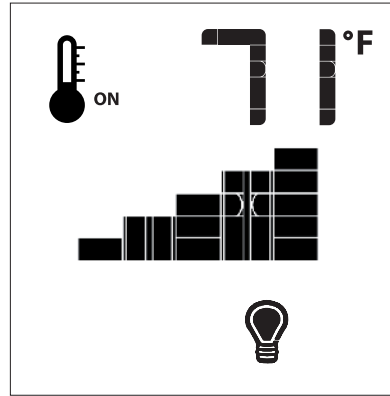

Fig. 16
The intensity of the output can be adjusted through six (6) levels. Use the Up/Down Arrow Keys (Fig.1) adjust the output level (fig. 16). A single "beep" will confirm reception of the command.